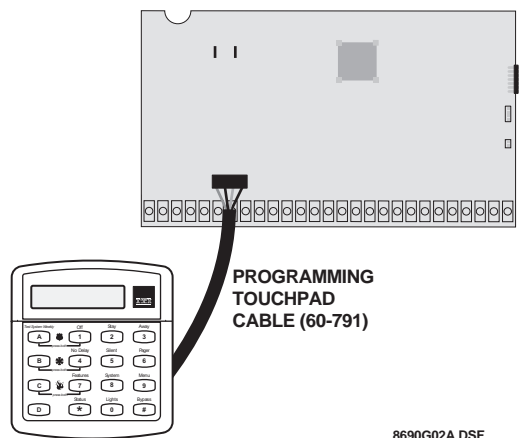

Figure 37. Connecting a Programming Touchpad
3. Connect the plug on the cable onto the panel programming touchpad header (see Figure 37).